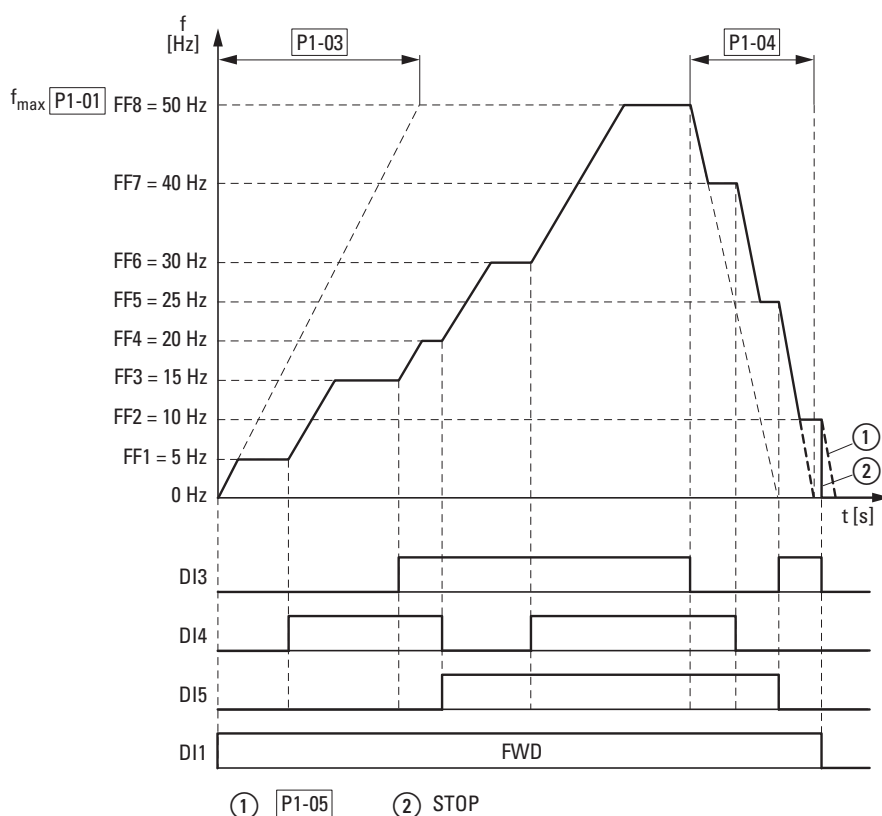

Figure 67: Example: Activation of the fixed frequencies with acceleration and deceleration ramps
The change between the individual fixed frequencies is done with the acceleration times and deceleration times set at P1-03 and P1-04 (→ Figure 67). When the FWD or REV enables are revoked, the output frequency is inhibited directly ② (coasting to halt). When P1-05 = 0, the drive performs a controlled deceleration ①.